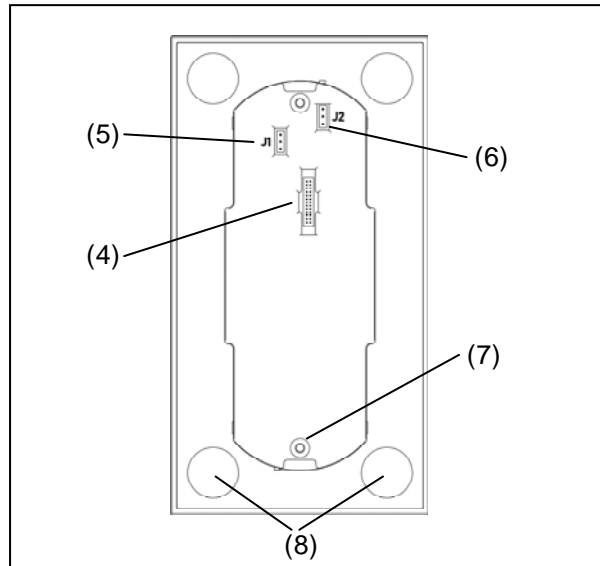
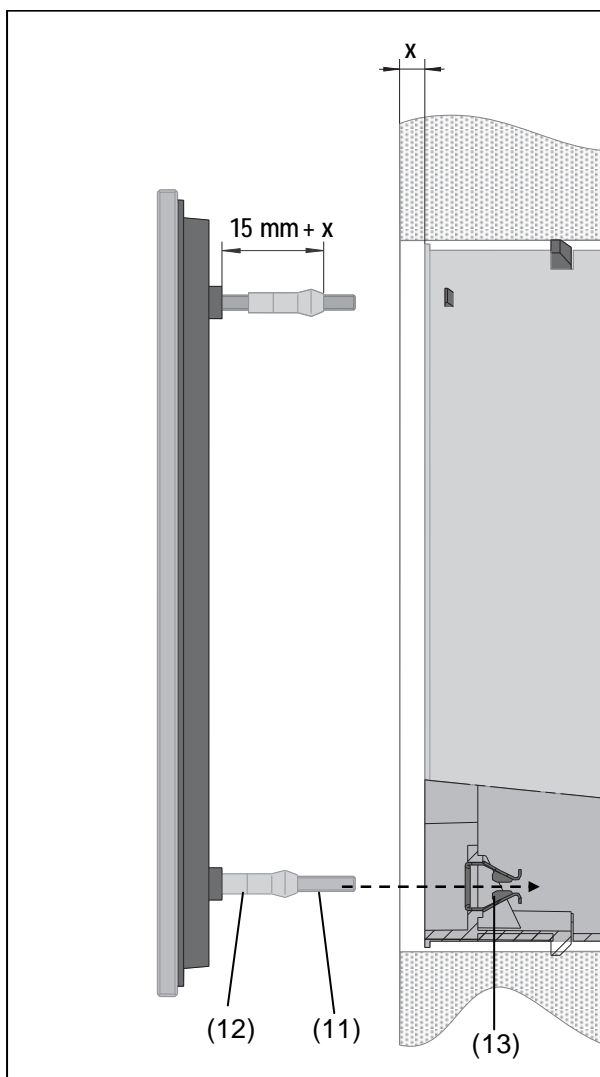

Figure 2: Rear view
Figure 6
- Clean the attachment locations for the adhesive points on the back of the glass sensor (Figure 2, 8).
- If necessary, measure the required surface adjustment (Figure 6, x). Screw the retaining pins (Figure 6, 12) on the setscrews (Figure 6, 11) out by the surface adjustment x so that they have a distance of 15 mm + x from the socket for the setscrews.
- Connect the glass sensor to the adapter being used by means of the supplied ribbon cable. Do this by inserting the plugs into the slots provided for that purpose in the glass sensor (Figure 2, 4) and the adapter.
- Insert the setscrews (Figure 6, 11) of the glass sensor into the clamp springs (Figure 6, 13) and press in until the retaining pins (Figure 6, 12) engage noticeably.
- If necessary, measure the required surface adjustment (Figure 6, x). Additionally screw the retaining pins (Figure 6, 12) on the setscrews (Figure 6, 11) out by the surface adjustment x so that they have a distance of 20 mm + x from the socket for the setscrews.
- ① Set the surface adjustment precisely so that after mounting the glass sensor is firmly in contact with the wall.
- Screw the setscrews (Figure 6, 11) out of the sockets on the back of the glass sensor.